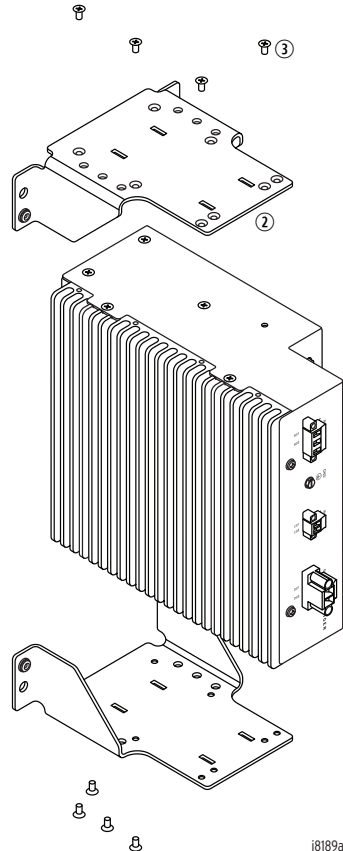

Figure 6 Removing/Installing the Support Brackets
- Step 3. Remove the eight (8) flathead screws ③ securing the two support brackets ②. Discard screws and support brackets (see *Figure 6*).